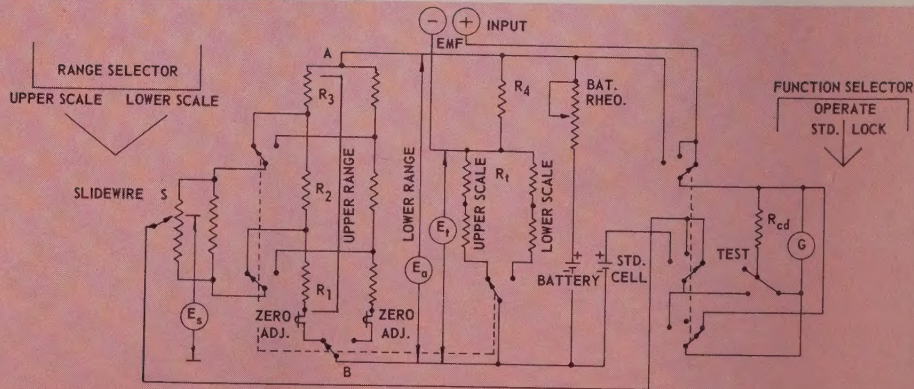

Figure 1. Schematic Diagram, "MiniMite".
1-1 The potentiometer circuit is an accurate and reliable method of measuring voltage and, therefore, thermocouple temperature. Figure 1 is a circuit diagram of the "MiniMite" potentiometer indicator circuit. The battery supplies a current which causes a voltage differential (E_s) along the potentiometer slidewire and the resistors between points A and B. A part of this voltage differential (E_s) is opposed by the unknown thermocouple voltage (Emf). The slidewire contact (S) is then adjusted until the galvanometer (G) shows no deflection. At this time the thermocouple voltage is equal and opposite to the voltage at the slide-
1-5 *Switch Functions.* A description of the functions of switches provided on the MiniMite is furnished in the following paragraphs. Refer to figures 1 and 2 for item location and circuitry information.